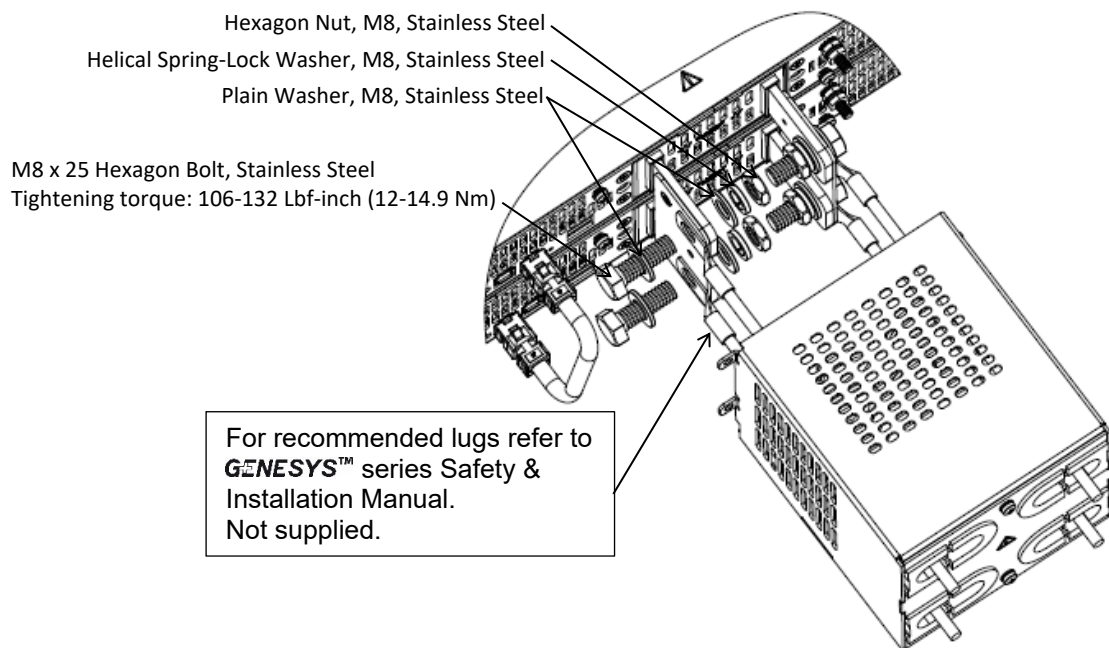

Figure 21: Two 60V-100V Units Lugs Assembly
- Assemble one lug on each bus bar using one hexagon bolt, two plain washers, one helical spring-lock washer and one hexagon nut as illustrated in Figure 21.